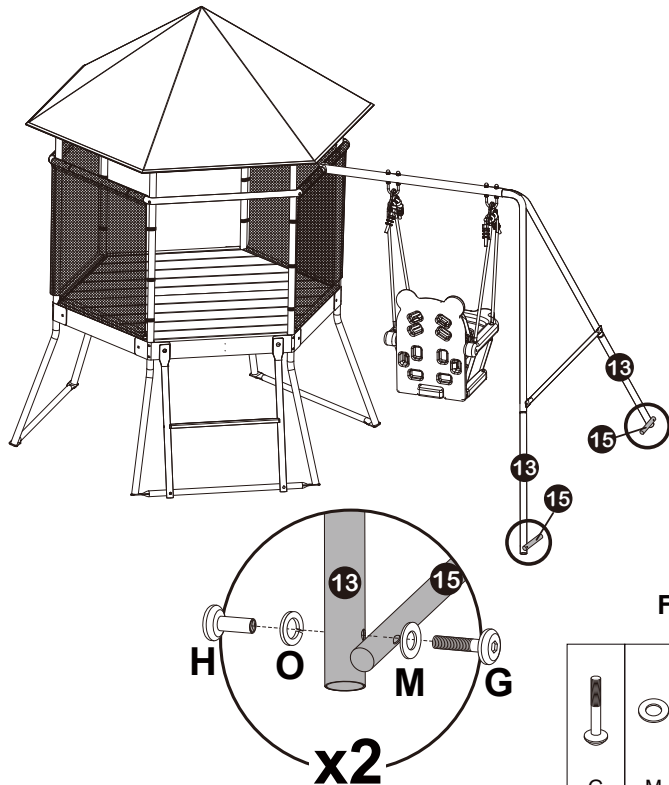

FIGURE 19
- Attach Anchors (15) to the base of Legs (13) as shown in Figure 19.